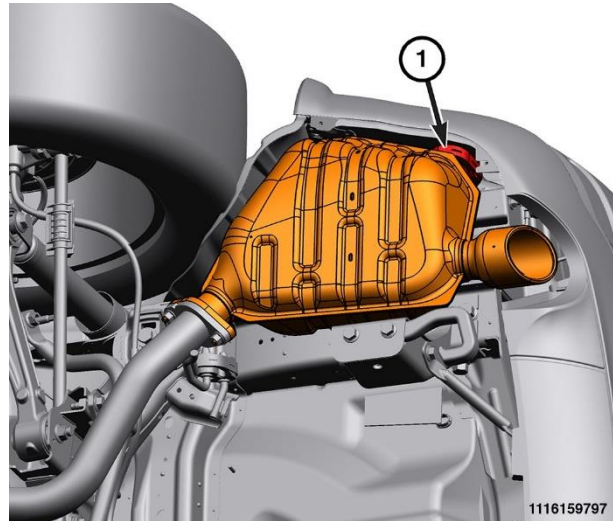

Figure 3 – Resonator Isolator
7. **Dual Exhaust ONLY:** Remove the resonator exhaust isolator (1) (Figure 3).